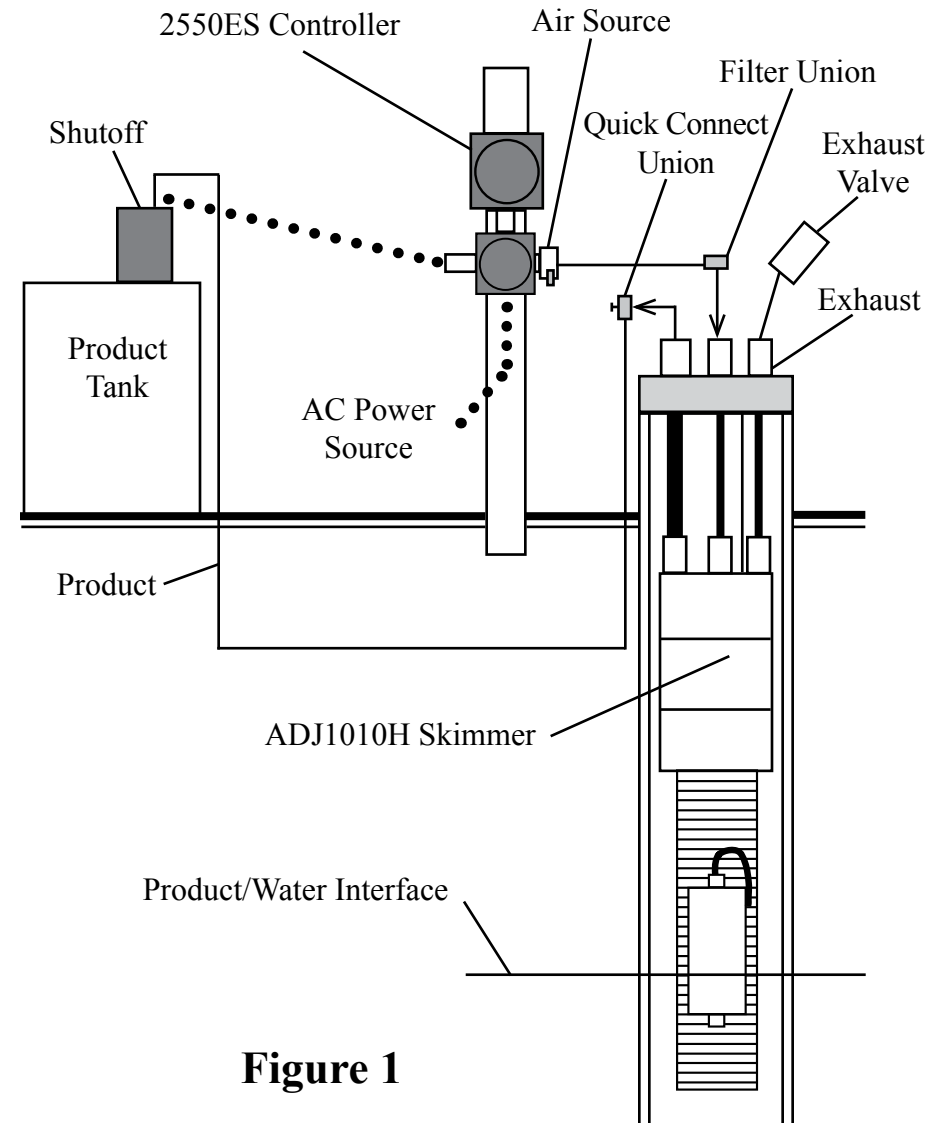
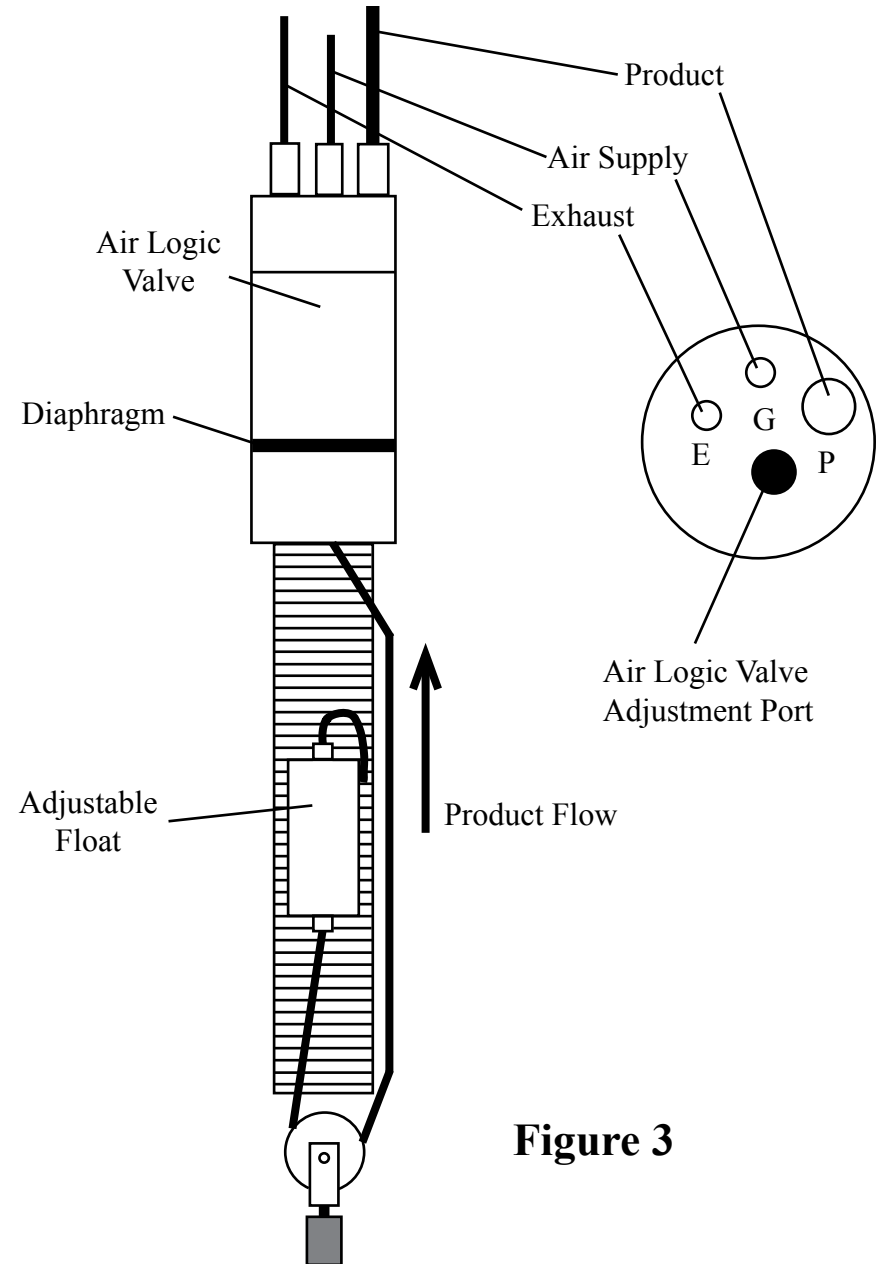

Figure 1
Figure 3
The system (Figures 1 and 2) relates to a heavy oil recovery system for wells four inches in diameter and larger. This system includes: an intrinsically safe ADJ1010H pneumatic Smart Skimmer, with an adjustable float (Figure 3), which removes heavy oil up to 200 feet deep; and a two function electronic Class I Controller Model 2550ES for hazardous locations which operates the skimmer intermittently, and has a high level tank shutoff.
STEP 7. Position the skimmer and well cap on the ground near the well. **NOTE:** If the skimmer is over 60 feet deep, use a vented design skimmer. Cut a length of 3/8" OD air supply tubing to cover the distance from the top of the well down to water/product interface, plus 5 feet. Slide enough tubing through the well cap and attach the end of the tubing to the top of the skimmer tube fitting labeled "G" (Figure 3). If the product thickness is greater than 1 foot, position the center of the skimmer screen 1 foot below top of product. If the product thickness is less than 1 foot, position the center of the skimmer screen at the water/product interface.
STEP 8. Cut a length of 1/2" OD product tubing same length as the air supply line. Install 1/2" OD product tubing through the well cap tube fitting labeled "P" (Figure 3). Slide enough tubing through the well cap and attach the end of the tubing to the top of the skimmer tube fitting labeled "P". **CAUTION:** Do not kink the tubing.